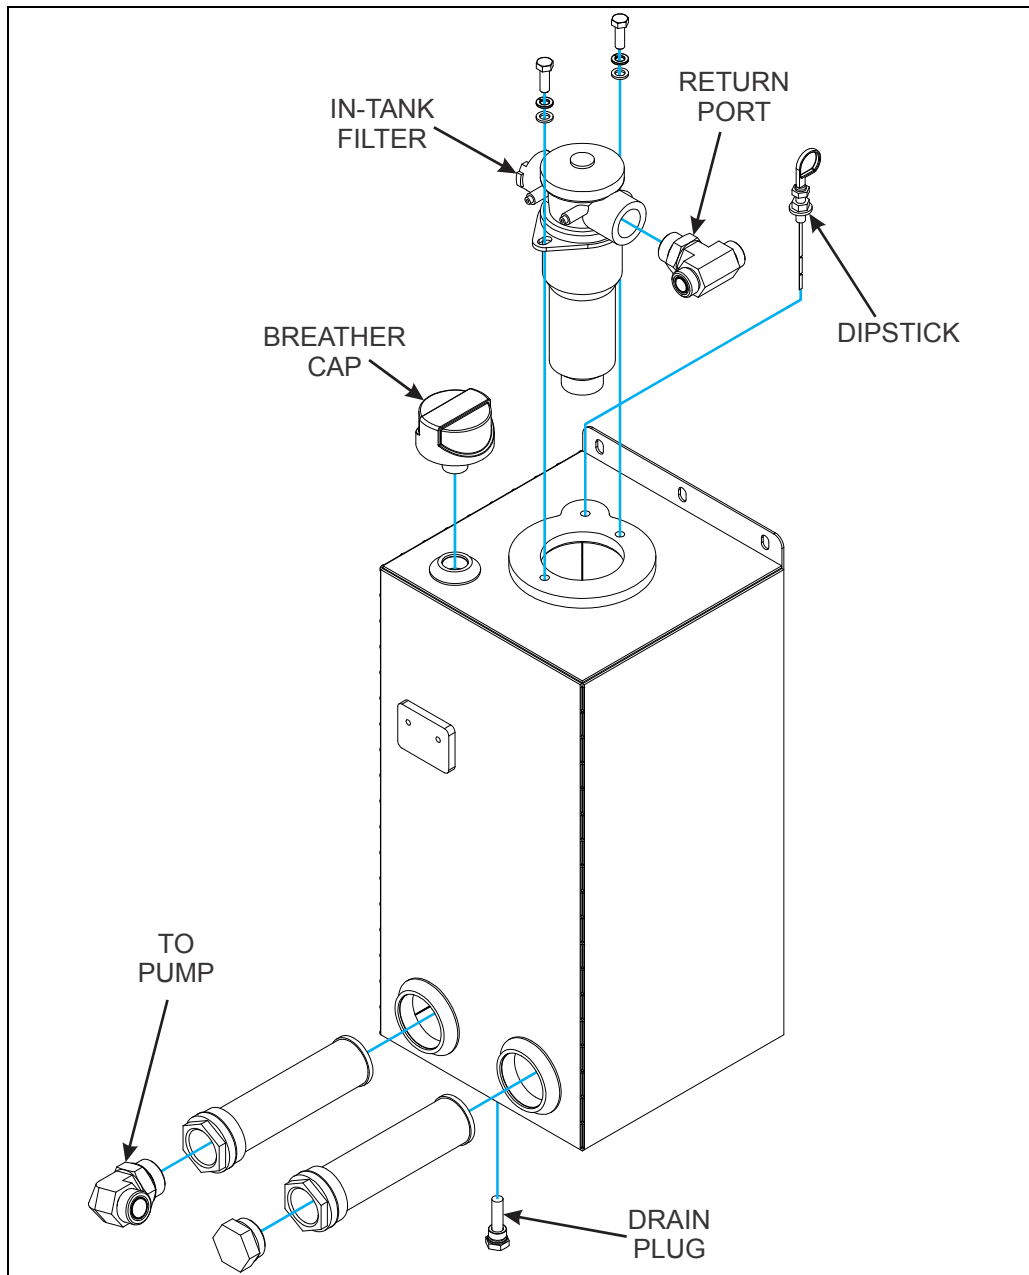

Figure 3-44: Replacing Hydraulic Tank
10. Drain the hydraulic tank (See Figure 3-44).